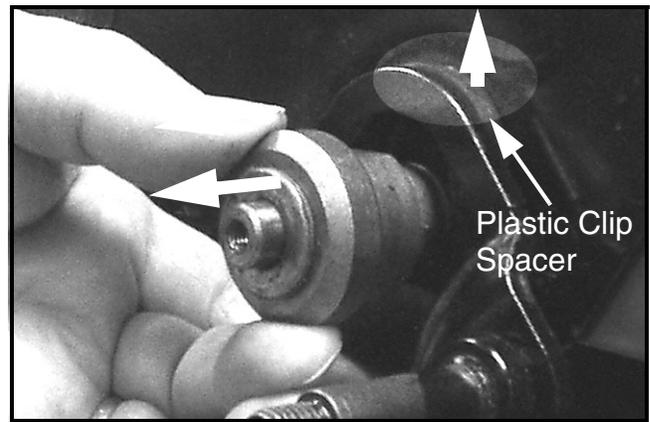

FIGURE 8
16. On the right side, remove and discard the transmission support bearing from the transmission's output shaft and plastic spacer clip. See Figure 8.